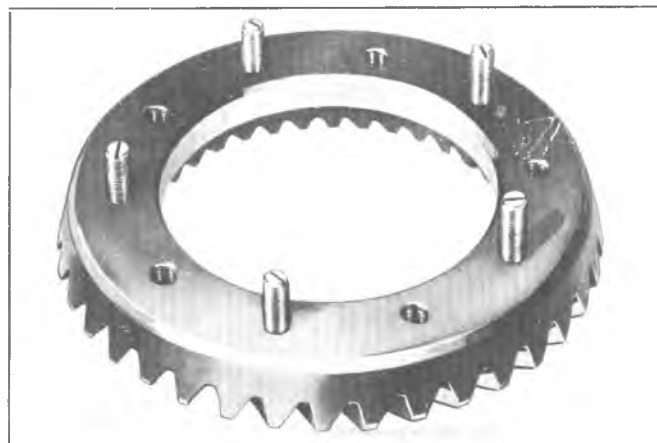

Fig. 5C--Ring Gear Guide Pins Installed
2. Install guide pins fabricated from 3/8-24 x 1 1/2" bolts with heads removed and ends slotted as shown in figure 5C.